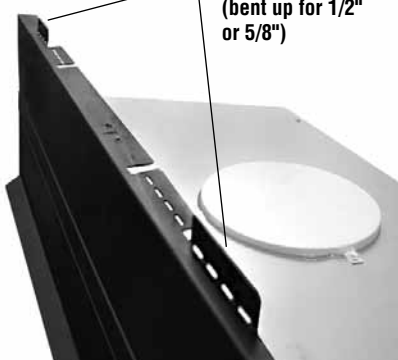

Figure 10
7. Remove the 4 screws on top, and install the top standoff with the 4 screws (*Figure 10*).
IMPORTANT! Before installing the fireplace, install the top standoff on the top front edge of the fireplace using the 4 existing screws on the fireplace top (see Figure 10). Then, bend up the applicable drywall backstops on the top standoff (1/2" or 5/8"), based on the thickness of the drywall/finish material to be used (see Figure 10).